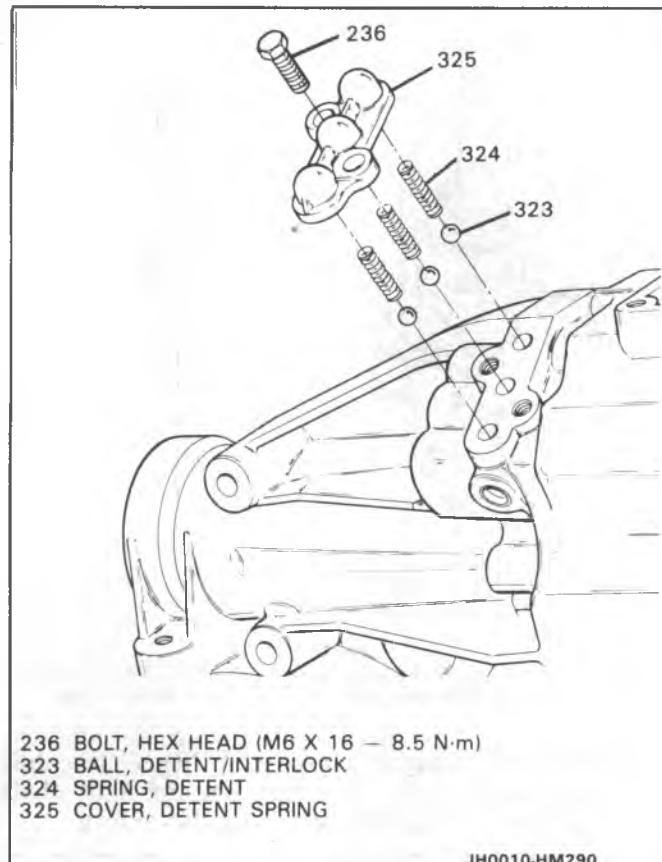
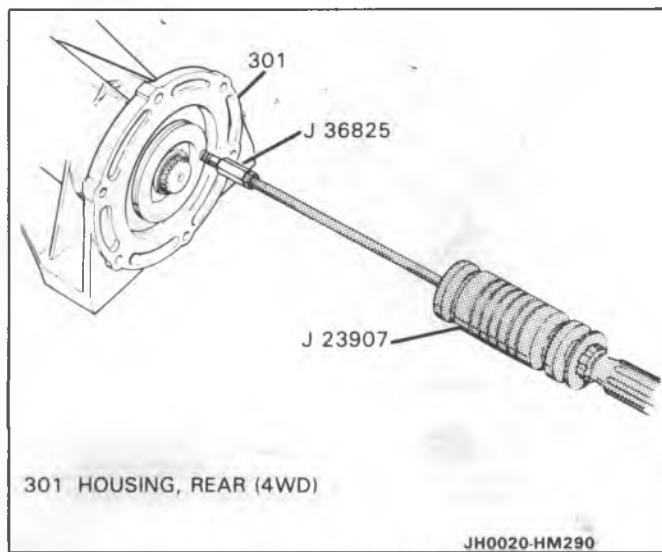

Figure 6 Removing Shift Rail Detent System
Figure 7 Removing 4WD Oil Seal
3. Bolt (317) and electronic speed sensor assembly (314).
4. Detent plug (245) using J 36509 and J 23907, Spring (244) and plunger (243).
5. Two bolts (236), detent spring cover (325), springs (324), and balls (323) (Figure 6).
- It may be necessary to remove sealant from inside of holes to remove the balls (323).
6. Output shaft oil seal (320) using J 36825 and J 23907 (Figure 7).